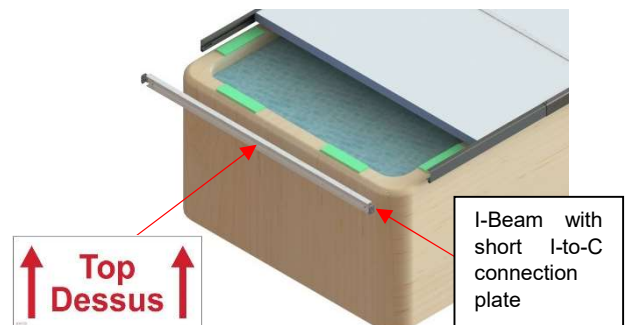

Figure 72
25) Slide the I-Beam with the short I to C connection plates in the C-Channels with the bent portion pointing inwards (Figure 72).